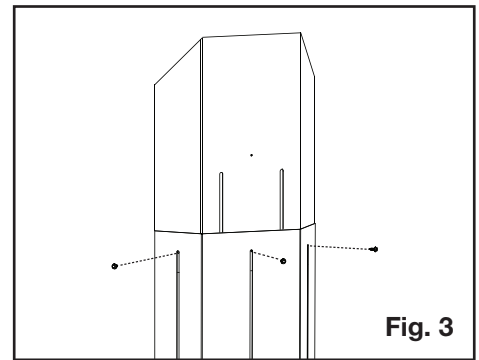

Fig. 3
3. Tighten the fasteners to lock the vent shield height (Figure 3).